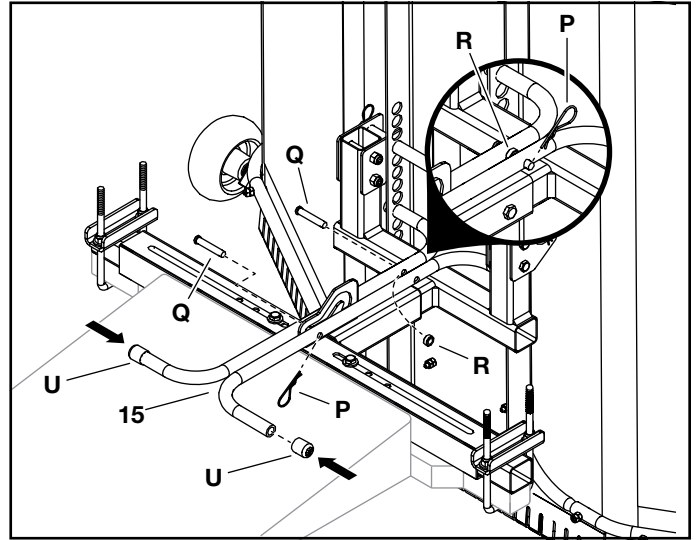

FIGURE 16
STEP 16: (SEE FIGURE 16)
- Attach the two push tubes (15) together using a clevis pin (Q) and a spacer (R) between the push tubes at the end closest to the bulkhead.
- Secure each clevis pin using a hair cotter pin (P).